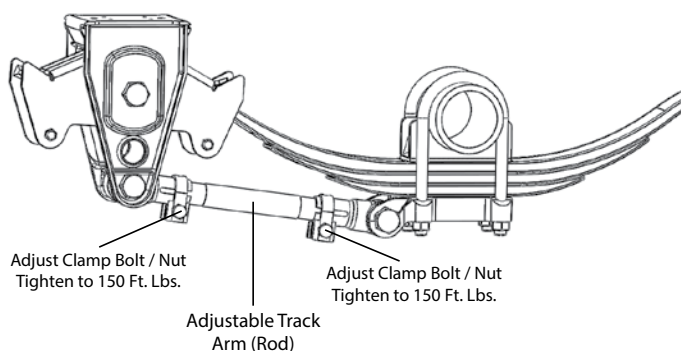

Figure 1
Loosen the clamp nuts at each end of the adjusting bolt so the adjusting rod can rotate (see Figure 1). Align front axle with the king pin or coupler and adjust rear axle parallel to the front axle. Be sure to secure the clamps on the adjustable track arm after alignment (see Figure 1).
Alignment Procedure (Figure 1)
1. Loosen the adjustable track rod clamp bolts (Figure 1) and turn the center rod to adjust as necessary per above.
2. After adjusting, tighten the adjustable track rod clamp nuts (Figure 1) to proper torque. Recheck measurements and readjust as needed.